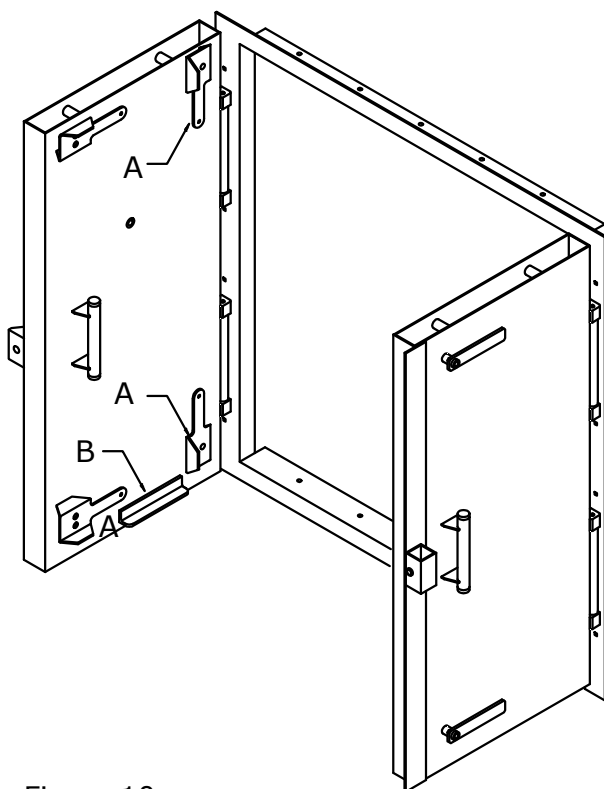

Figure 10
5. Viewer, (Y-N), see figures 10